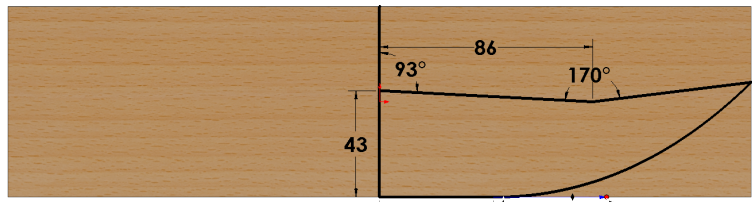
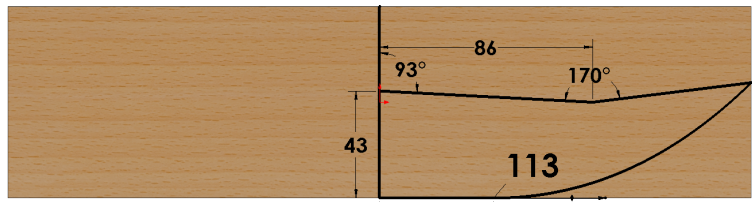

Fig. 6
Fig. 7
Step 4. Click **Smart Dimension**  (S) on the Sketch toolbar.
Step 5. Dimension Spline Point 1 **Tangent Weighting2 113**, **Fig. 6** and **Fig. 7**. To dimension Tangent Weighting, click the **Circular Spline handle** , **Fig. 6**, then move the cursor out away from spline and click. Key-in 113 and press ENTER.